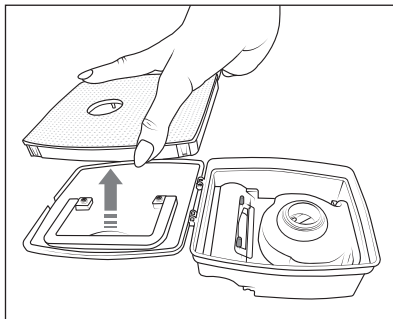

Fig. 9
- 4) Pull the EPA filter **7** off the lid of the dust container **12** (see Fig. 9).